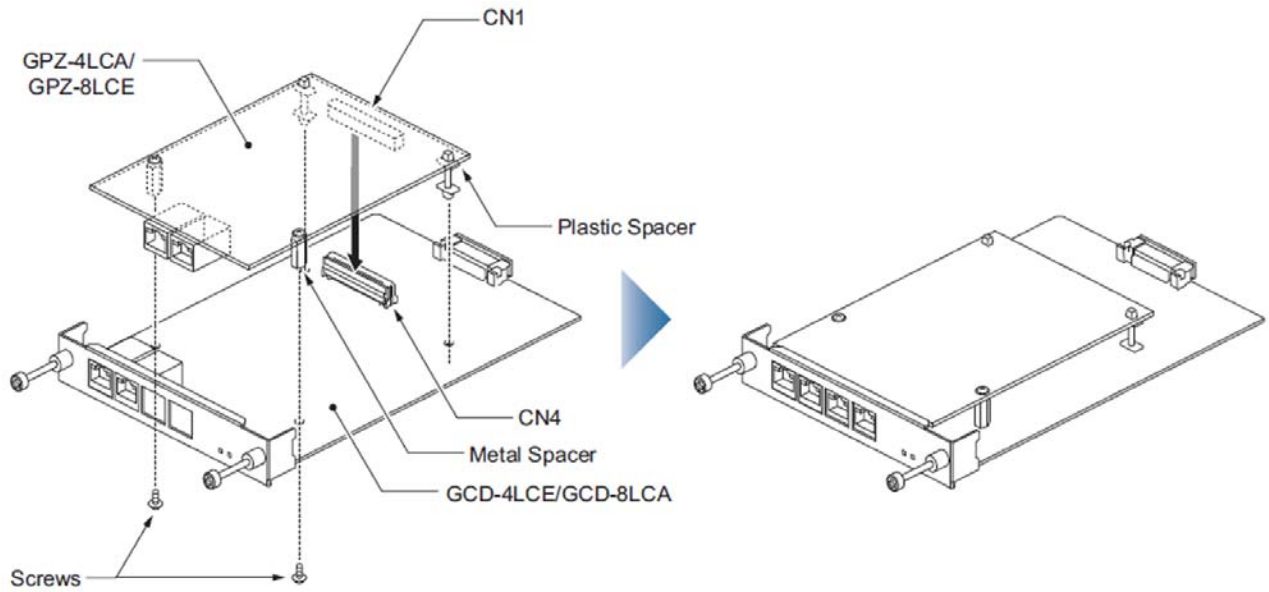

Figure 4-12 Installing the GPZ-4LCA Daughter Board
1. Included with the SLIDB are four plastic spacers. Install the plastic spacers onto either the GCD-4LCA or GCD-8LCA. Make sure to attach the spacers so that they extend out on the side of the daughter board which has the CN1 connector. Refer to Figure 4-12 Installing the GPZ-4LCA Daughter Board on page 4-45.
2. Position the SLIDB CN1 connector over the CN4 connector on the SLIU blade. Press the boards together, ensuring the plastic spacers lock in place. Refer to Figure 4-12 Installing the GPZ-4LCA Daughter Board on page 4-45.
Table 4-23 GPZ-4LCA/GPZ-8LCE/ RJ-61 Cable Connector Pin-Outs show the pin-outs for the RJ-61 connector. Refer to Figure 4-12 Installing the GPZ-4LCA Daughter Board on page 4-45 for illustrations showing the location of the connectors on the SLIDB blades.